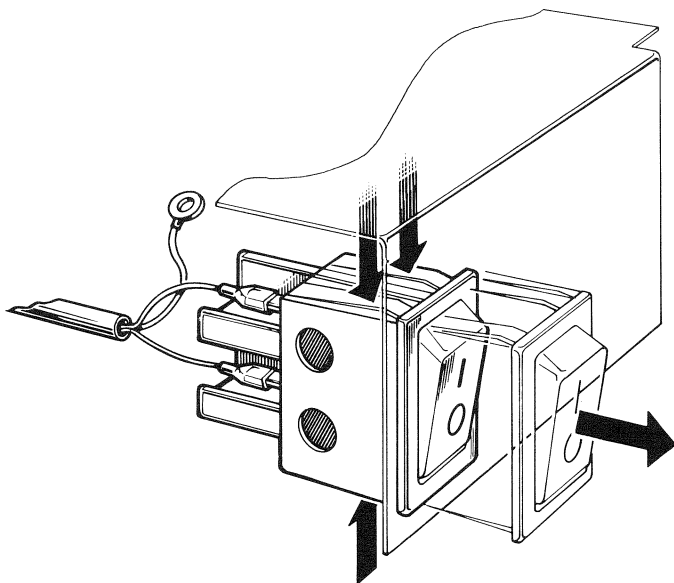

Figure 10-6 On/Off Switch Removal
4. Press the top and bottom of the on/off switch and push the switch and its cable out from the inside of the front panel (Figure 10-6).